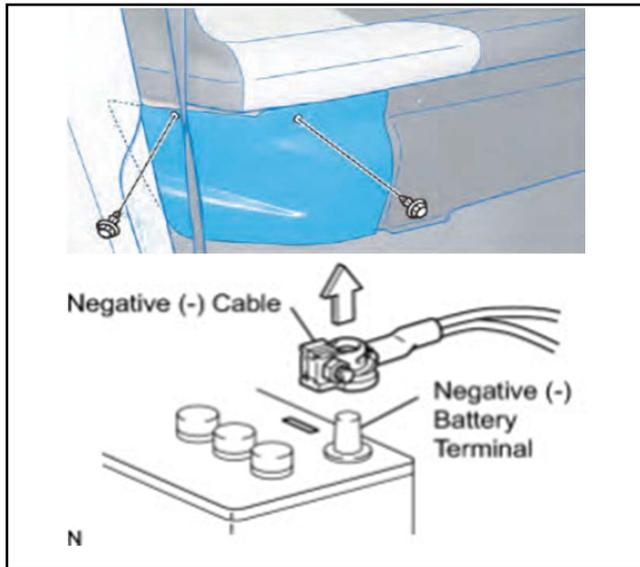

Figure 1
1. Remove the (2) Clips. Remove the passenger's side rear seat under cover. See figure 1.
2. Remove the NEGATIVE (-) battery terminal before starting any disassembly. See figure 1.